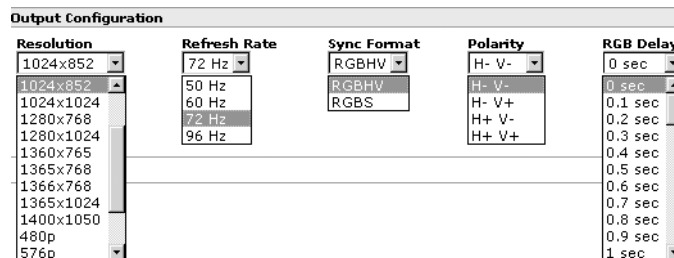

Figure 23. Output Configuration Drop Boxes
1. Click the desired field. A drop down scroll box appears (see figure 23).